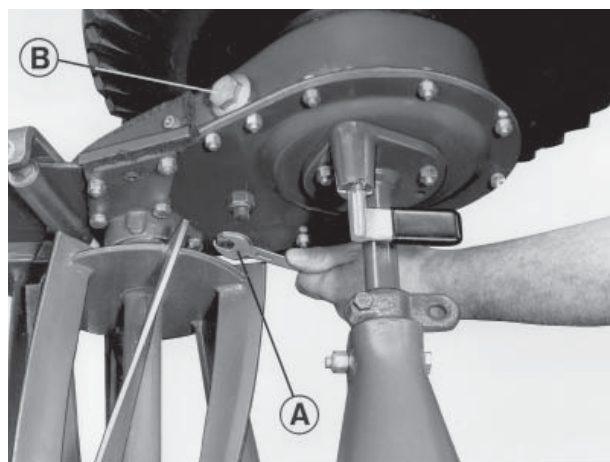

Fig 21
Machines are despatched without oil in the gearcases which must be filled to the correct level before use. (Fig. 21). Correct lubrication of the gear box is essential for long life and good performance. Each gear box—there is one on the left and one on the right of the cutting unit—must be provided with oil up to the level of the oil level plug (A). Remove this plug to check oil level. If necessary remove filter plug (B) and top up until oil appears from level plug hole. Replace the oil level plug ensuring that the fibre washer is in position. Never top up without removing level plug. The correct grade of oil for gear boxes is SAE 140. If the unit is used with other manufacturers frame work which tilts the unit on end the gear box should be lubricated with non tracking grease to prevent leakage. Check level monthly.